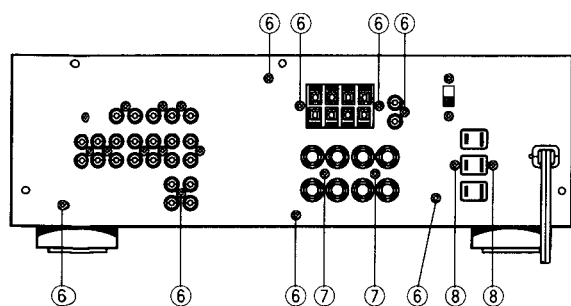

Fig. 3
- Remove 8 screws (⑥), 2 screws (⑦) and 2 screws (⑧) in Fig. 3.